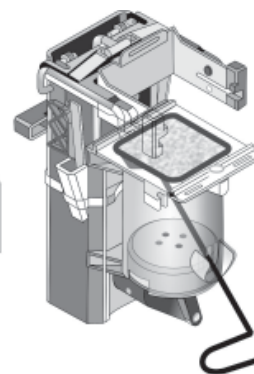

Fig. 1.
When the display shows, "Change paper" open the door and insert the dismantling tool (A) through the brewer spout all the way to the back of the cylinder, then slide it up until contact is made with the screen assembly. Fig. 1.